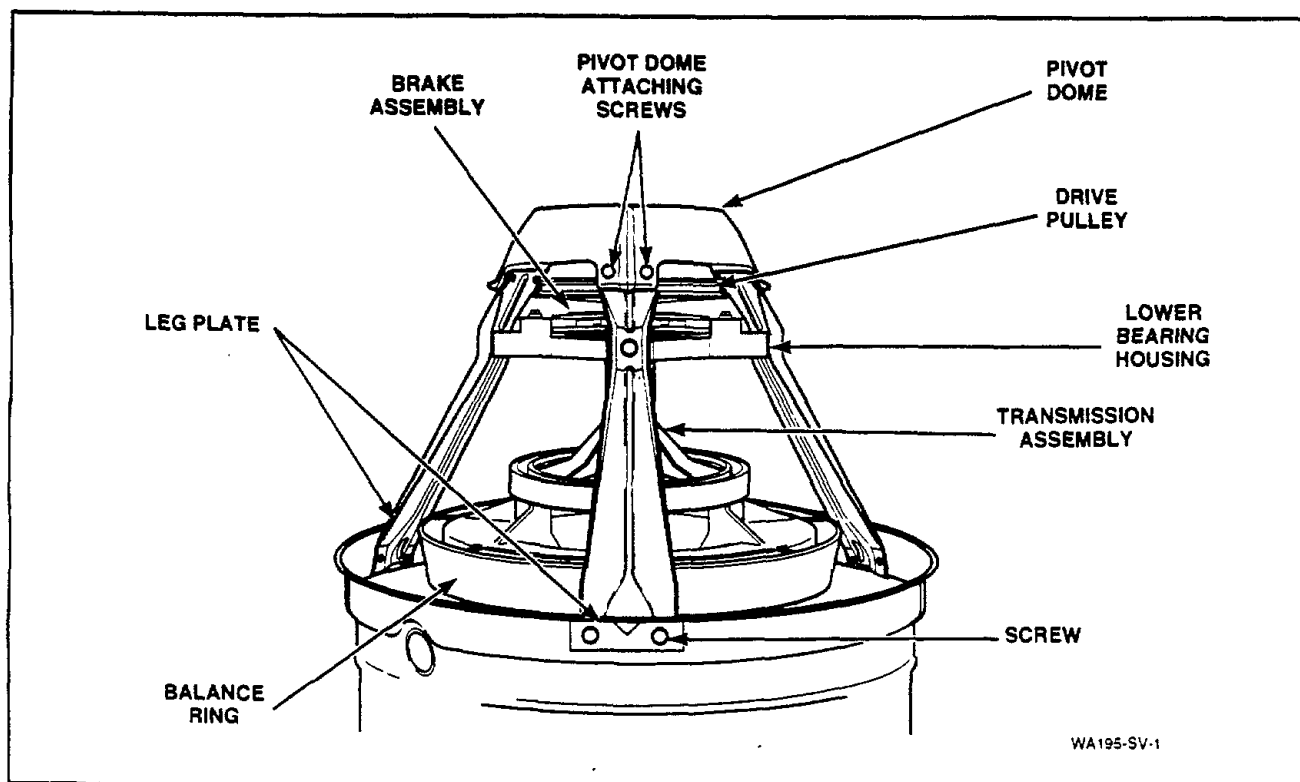

Figure 59
- w. Remove screws holding each support leg to outer tub, *Figure 59*. Then lift transmission, balance ring and pivot dome off tub.
- l. Remove screws holding the three support legs to the pivot dome and remove dome, *Figure 59*.
- Remove screws holding the three support legs to the pivot dome and remove dome, *Figure 59*.